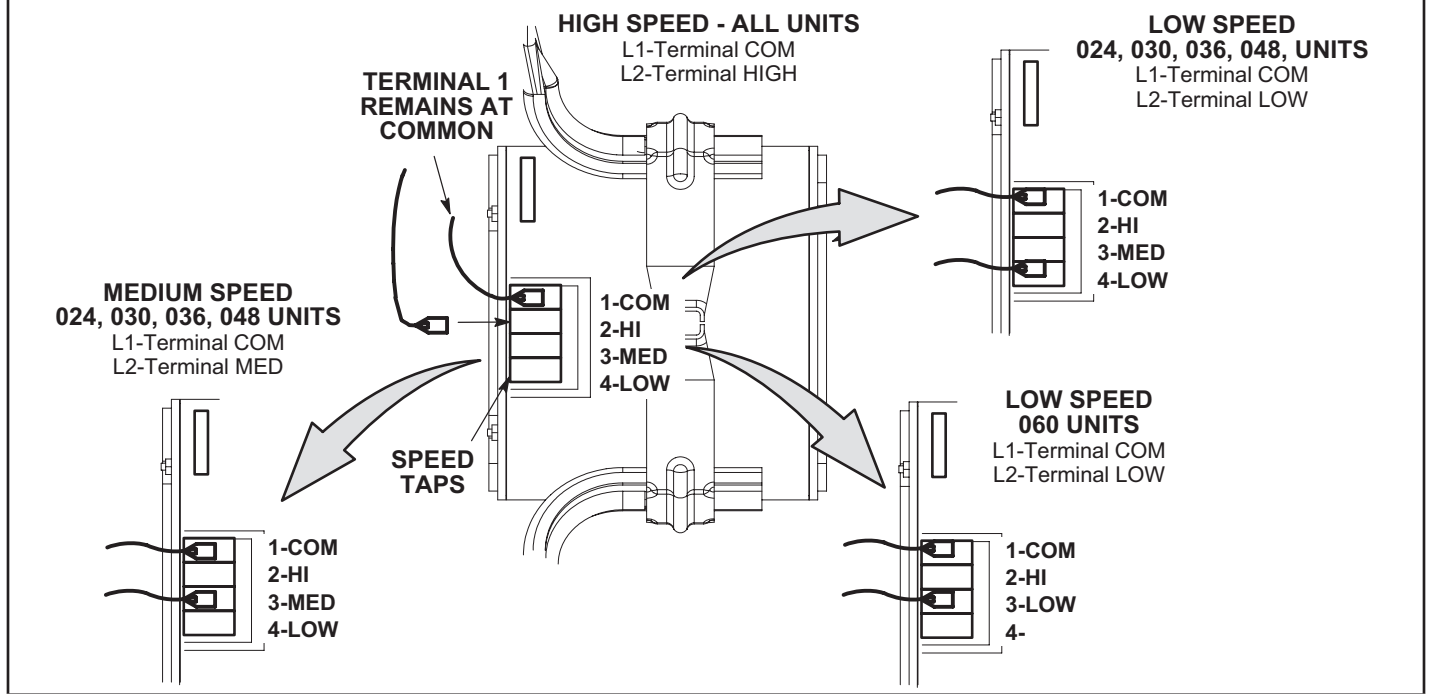
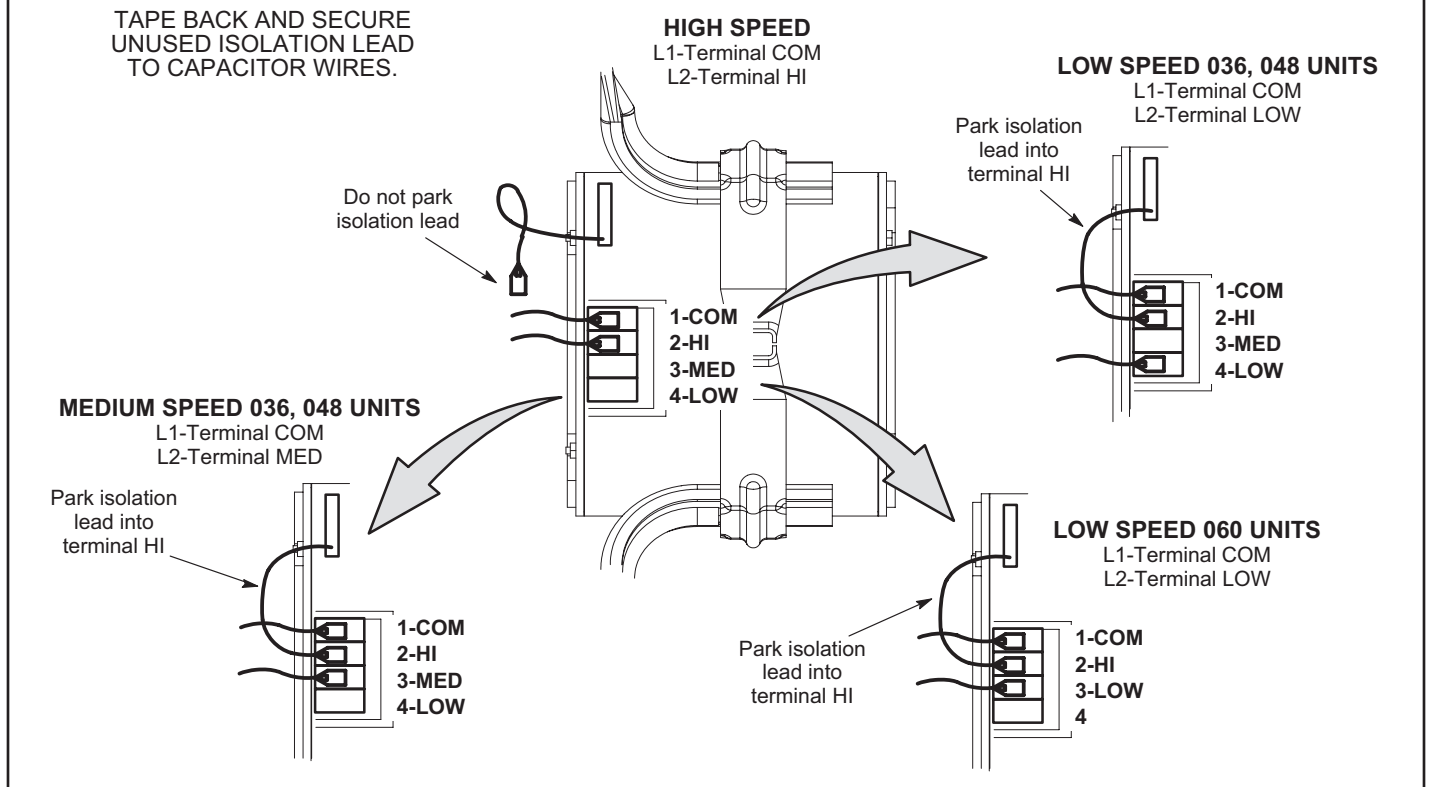

FIGURE 8
FIGURE 9
- 4 - Use direct drive blower tables, the measured static pressure and the factory-set blower speed to determine CFM. If CFM is lower or higher than the design specified CFM, move the leads as shown in figure 8 for 208/230 volt units and figure 9 for 460/575 volt units.